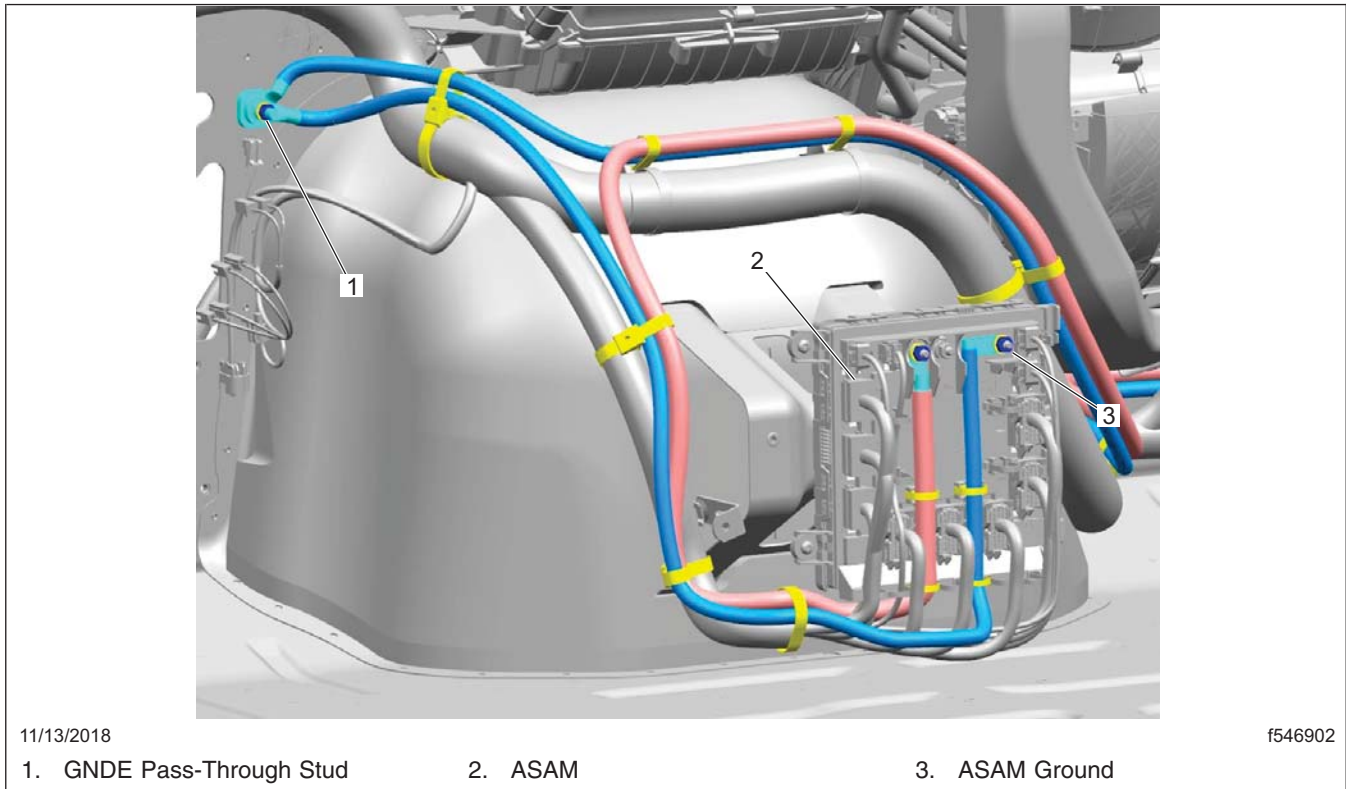

Fig. 2, Ground Locations Inside the Cab
14. Inspect the GNDE pass-through stud on the cab side of the frontwall. See Fig. 2. Wiggle the cable to check for movement, and service if loose. Torque the stud 14 lbf-ft (19 N-m).